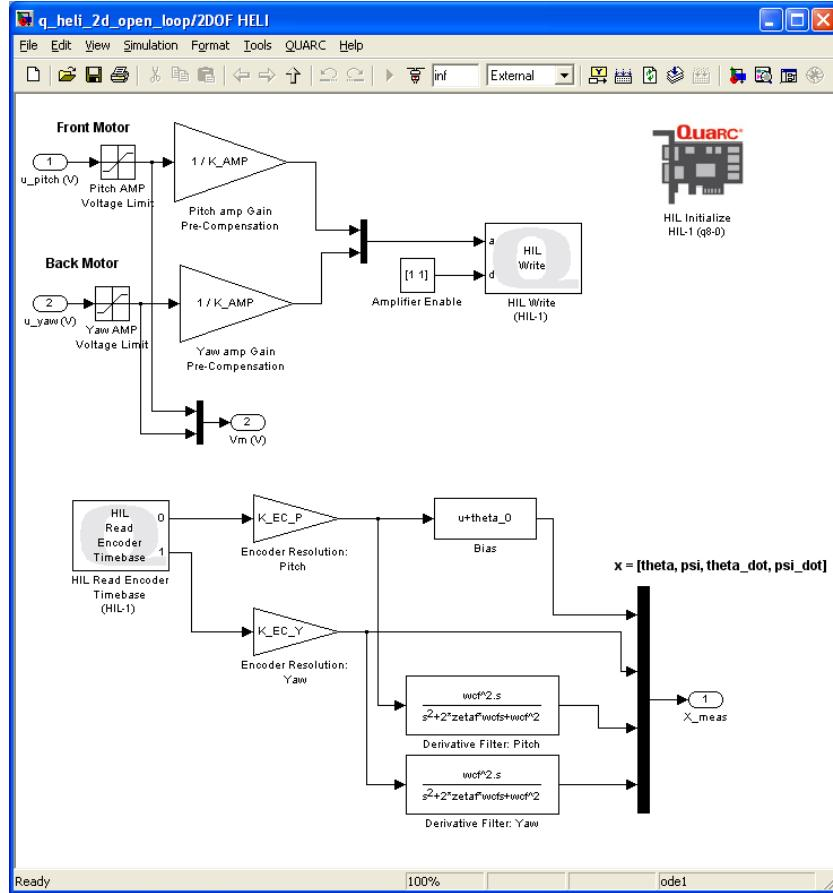

Figure 5.12: 2DOF HELI subsystem contains QUARC blocks that interface with hardware
5. Open the 2DOF HELI subsystem. Its contents are shown in Figure 5.12. This subsystem contains the QUARC blocks that interface with the hardware of the actual plant. The Analog Output block sends the voltage computed by the controller to the DAQ device which drives the actuators and the Encoder Input block reads the encoder measurements.
6. **Configure DAQ:** Double-click on the HIL Initialize block in the Simulink diagram and ensure it is configured for the DAQ device that is installed in your system. By default the block shown in Figure 5.12 is setup for the Quanser Q8 hardware-in-the-loop board.
6. **Configure DAQ:** Double-click on the HIL Initialize block located in the 2-DOF Helicopter - Closed-loop Actual System 2-DOF HELI subsystem (contents are as shown in Figure 5.12, above) and ensure it is configured for the DAQ device that is installed in your system. By default the block is setup for the Quanser Q8 hardware-in-the-loop board.